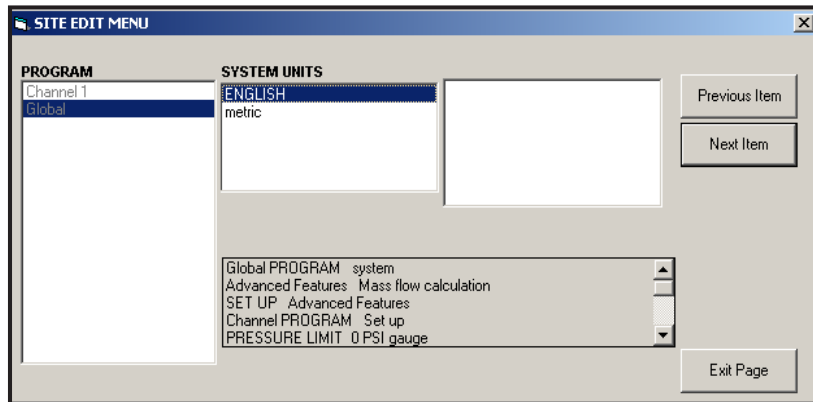

Figure 45: The System Option in the Global Menu
2. Highlight and double-click on the *System* option in the center pane. The window now appears similar to Figure 45.